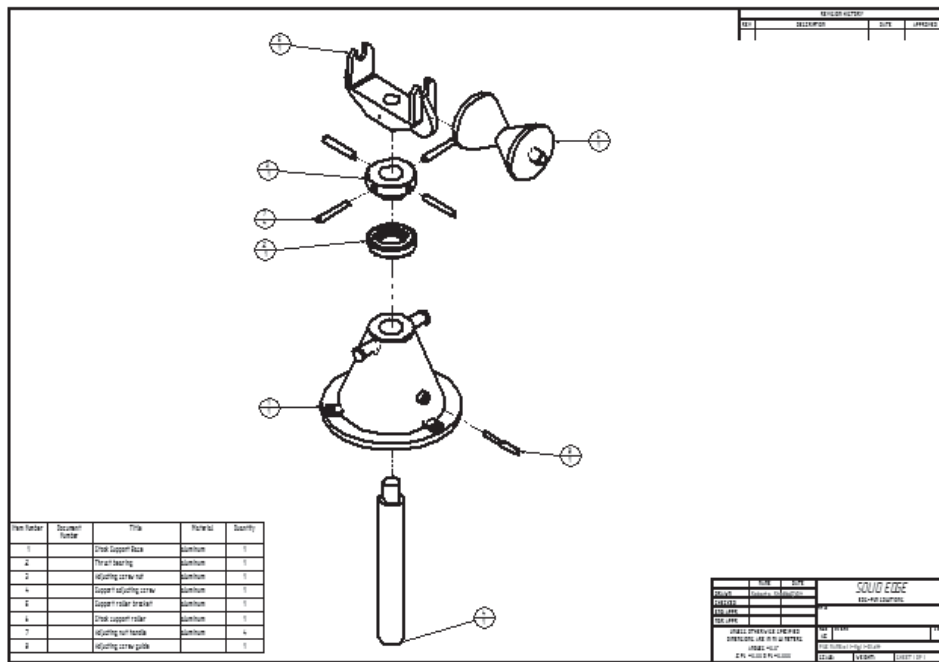

Figure 11-29 Exploded view of the assembly with BOM and balloons
5. Choose the **Finish** button to place the parts list and balloons as shown in Figure 11-29.